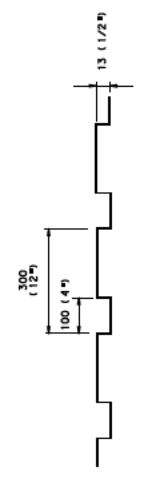

FIGURE 3
1. MAX. 1 1/2" X 4" PLYWOOD STRIPS IN PLACE AT 300 OVERLAY, THEN REMOVE PLYWOOD STRIPS (SEE FIGURE 3).